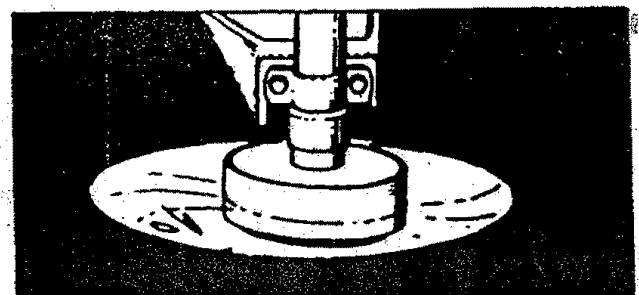

Figure 19
4. SWEEPING — Figure 19
- Hold the Trimmer Head as shown in Figure 19. Press the Lock Tab and turn Cover counterclockwise.